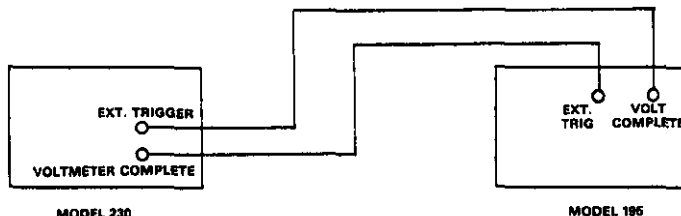

Figure 2-5. External Trigger Connections
1. Connect the Model 195 to the Model 230 as shown in Figure 2-5. Use suitable shielded cables with BNC connectors. The Model 195 VOLTMETER COMPLETE OUTPUT should be connected to the Model 230 EXTERNAL TRIGGER INPUT. The Model 195 EXTERNAL TRIGGER INPUT should be connected to the Model 230 EXTERNAL TRIGGER OUTPUT.